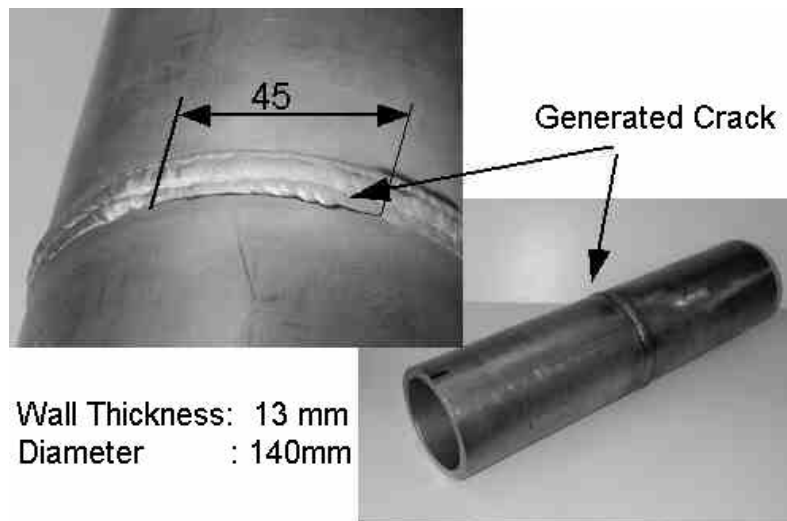

Figure 4: Test specimen / *Rajah 4: Spesimen ujian*
- [b] An austenitic tube of 13 mm wall thickness and 140 mm diameter was used as a specimen (Figure 4). Near the weld, a crack was generated, starting at the surface and propagated in the direction of the tube wall. The surface breaking crack was made visible by liquid penetration and is clearly visible in the photo (Figure 4).